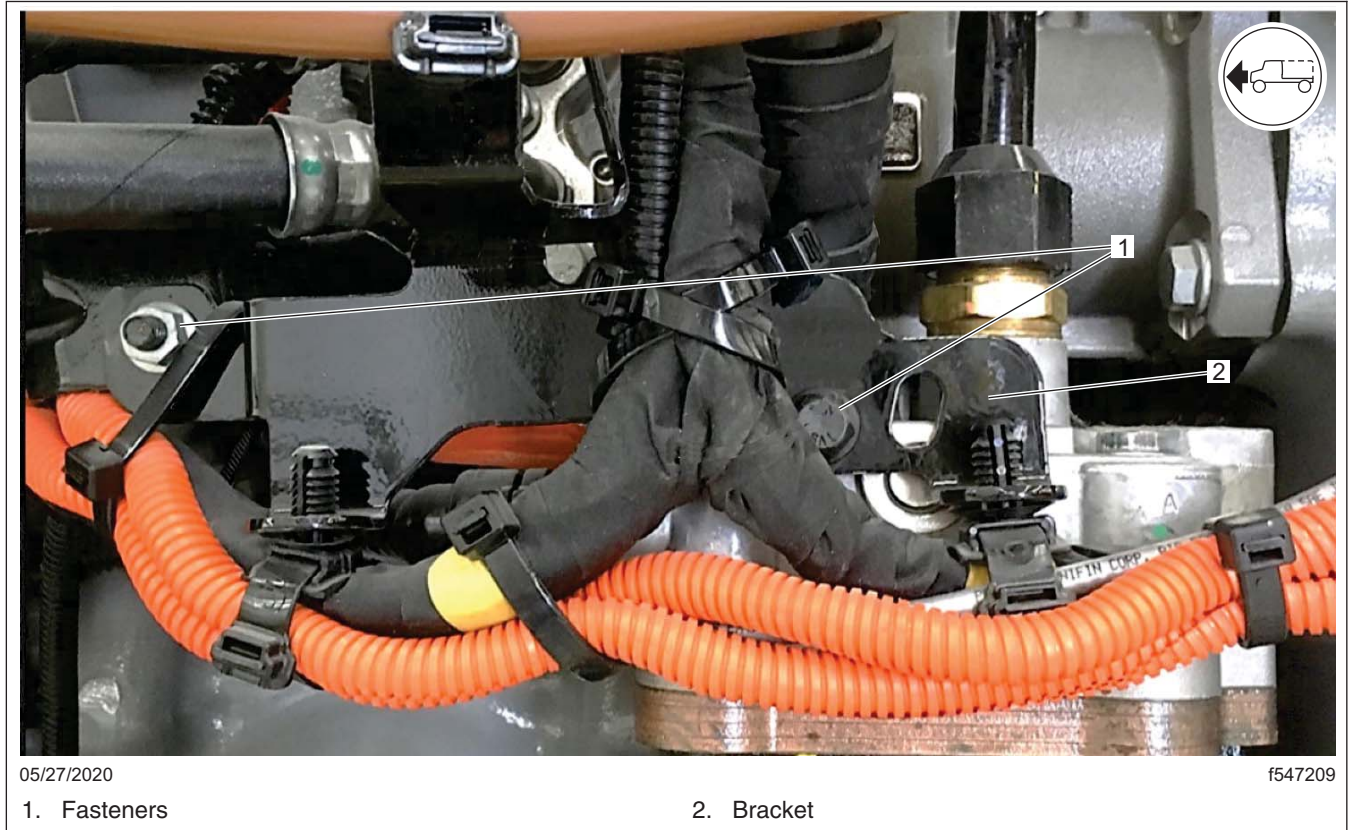

Fig. 2, Harness Near the Air Compressor Mount Bracket
5. Remove the fasteners and then remove the bracket from the engine. See **Fig. 2**.